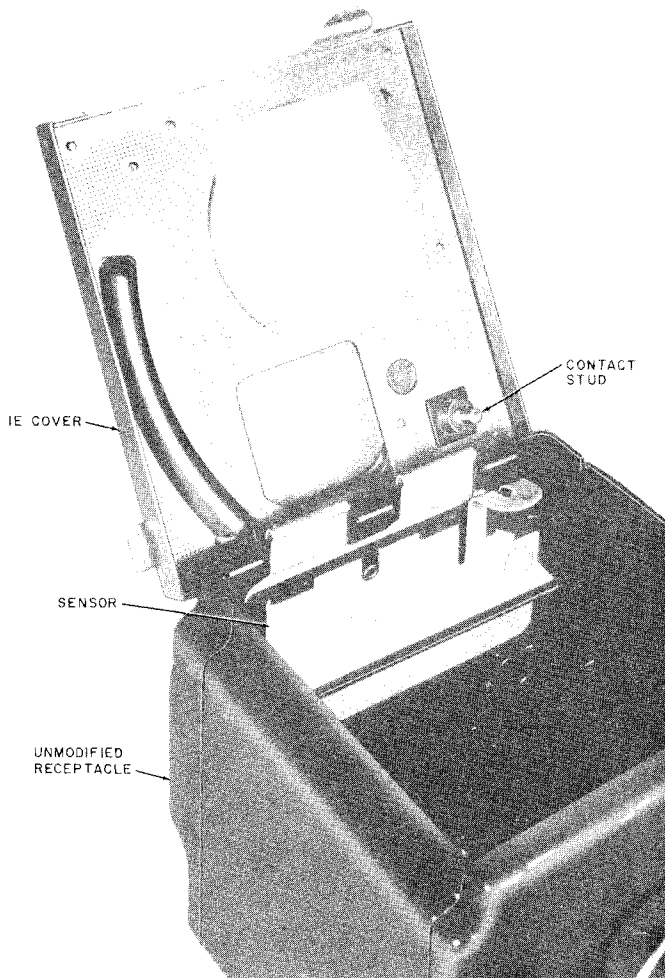

Fig. 5—Modified Coin Box
- 3.02 Replace the 1D coin box cover with the 1E cover (Fig. 5).
- 3.03 Clip the dual element sensor on the rear of the coin box (Fig. 5).
3.06 Replace existing coin box with a modified coin box (Fig. 5).